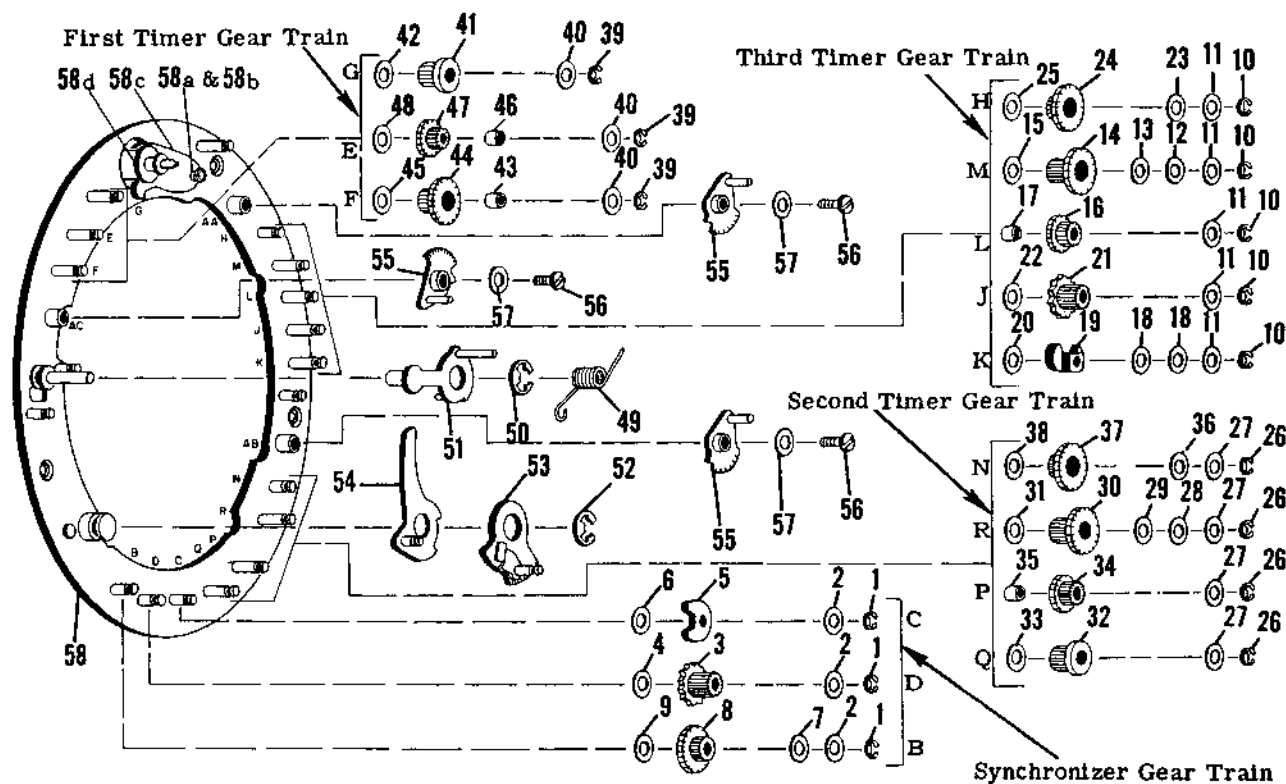

Figure 5. CONTROL PLATE COMPLETE
Gear trains (posts on control plate)	Figure 5
Screws (threads)	56, Figure 5
Loose post on control plate assembly (58, Figure 5)	Replace control plate assembly
7. All components of the control plate (6, Figure 13) secured by screws or retaining rings can be removed without removal of the control plate from the shutter. Complete breakdown of the control plate is shown in Figure 5.
The exploded view of the control plate (Figure 5) and the key given with the figure shows disassembly order for completely stripping the control plate. Use the figure and key to identify components and maintain relative component positions. All procedures are obvious except for the following special instructions.
2. When assembling timing dog assembly (55) and retainer (57) to posts AC, AB and AA, do not completely tighten screws (56). Reverse control plate and apply one drop of adhesive (39491P4) to each screw hole before tightening screws.
5. The control plate assembly (58) includes the brake stud (58a), brake spool (58b), cam brake (58c) and brake pinion cam (58d). Refer to para L for special repairs involving these parts.
6. First timer train on current control plate is assembled as shown with spacers on top of timing gears (44 and 47). Earlier models had the spacers mounted underneath the timing gears. If an earlier model is being repaired, up date the first timer train by substituting the new timing gear (44, Figure 26) on post F. Mount both spacers (43 and 46) on top of timing gears (44 and 47) as shown in Figure 5.